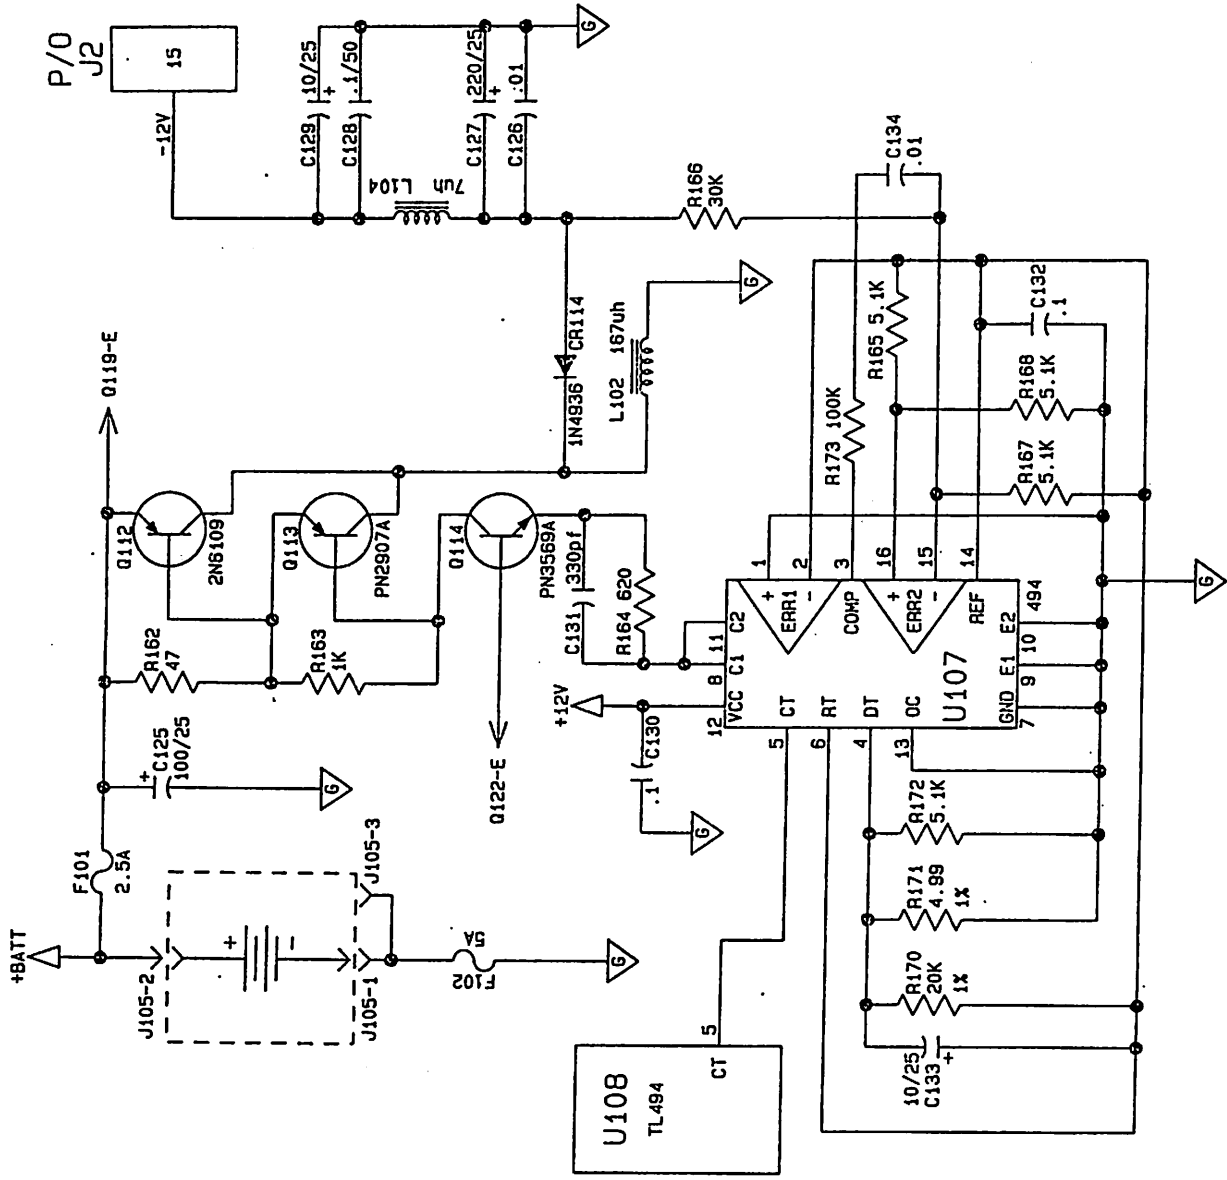

Figure 3-30. -12V Supply
3.9.9 -12 Volt Supply (figure 3-30)